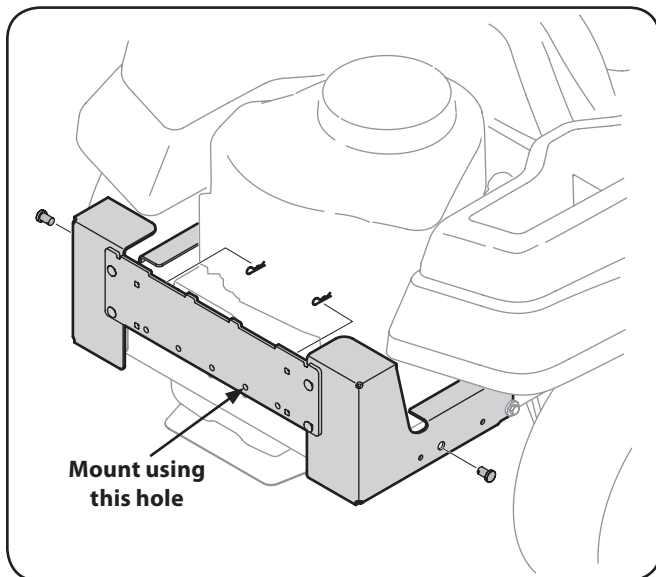
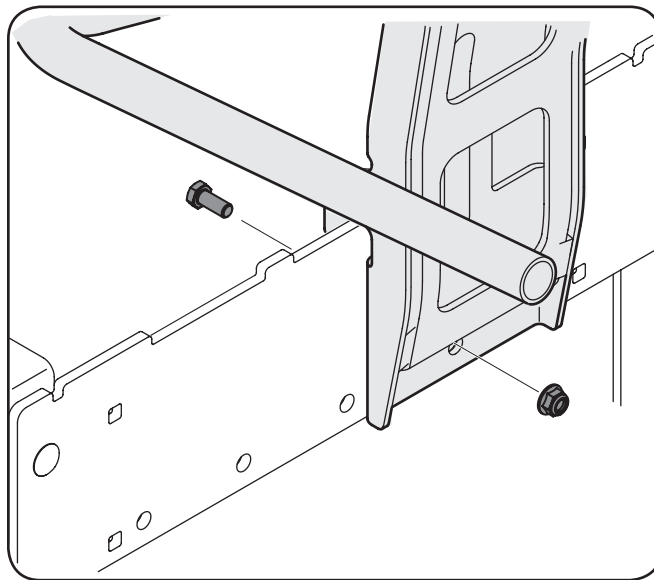

Figure 4-5
Figure 4-7
2. Secure the mounting bracket assembly to the tractor using two 711-0332 clevis pins and 714-04023 cotter pins from hardware pack 689-00093. See Fig. 4-5.
4. Secure the hanger assembly to the mounting assembly using a 5/16" bolt and flange nut packed in with this upright bagger support, as shown in Fig. 4-7. Use the mounting hole to the right of the center hole, as pointed out back in Fig. 4-5.